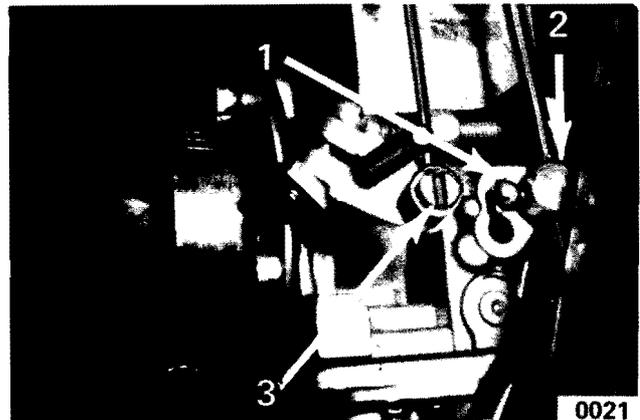

FIG. 5
- A) Release the foot pedal slightly and loosen carburetor lever screw (Fig. 5, Item 1).
- B) Pull the throttle cable sleeve 1/16" through the circular lever mounting hole (Fig. 5, Item 2).
- A) Loosen the choke lever screw (Fig. 5, Item 3).